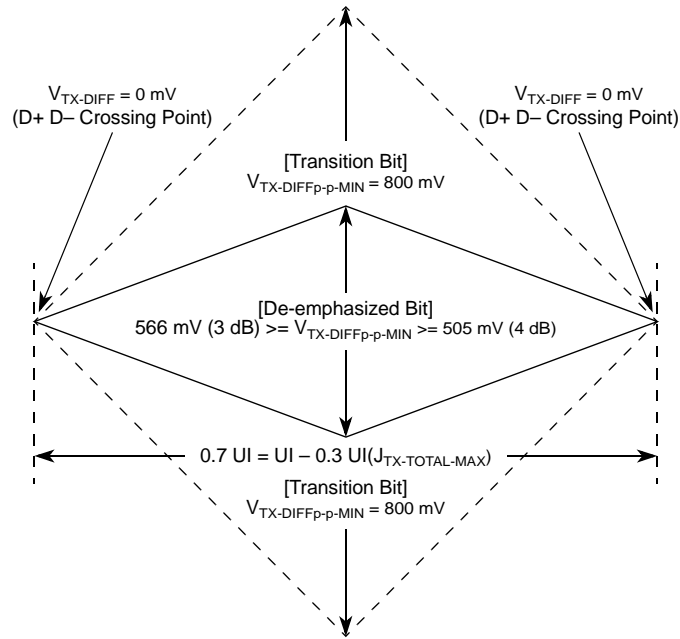

Figure 27. Minimum Transmitter Timing and Voltage Output Compliance Specifications
2. Specified at the measurement point into a timing and voltage compliance test load as shown in Figure 29 and measured over any 250 consecutive TX UIs. (Also refer to the transmitter compliance eye diagram shown in Figure 27.)
The TX eye diagram in Figure 27 is specified using the passive compliance/test measurement load (Figure 29) in place of any real PCI Express interconnect + RX component. There are two eye diagrams that must be met for the transmitter. Both diagrams must be aligned in time using the jitter median to locate the center of the eye diagram. The different eye diagrams differ in voltage depending on whether it is a transition bit or a de-emphasized bit. The exact reduced voltage level of the de-emphasized bit is always relative to the transition bit.